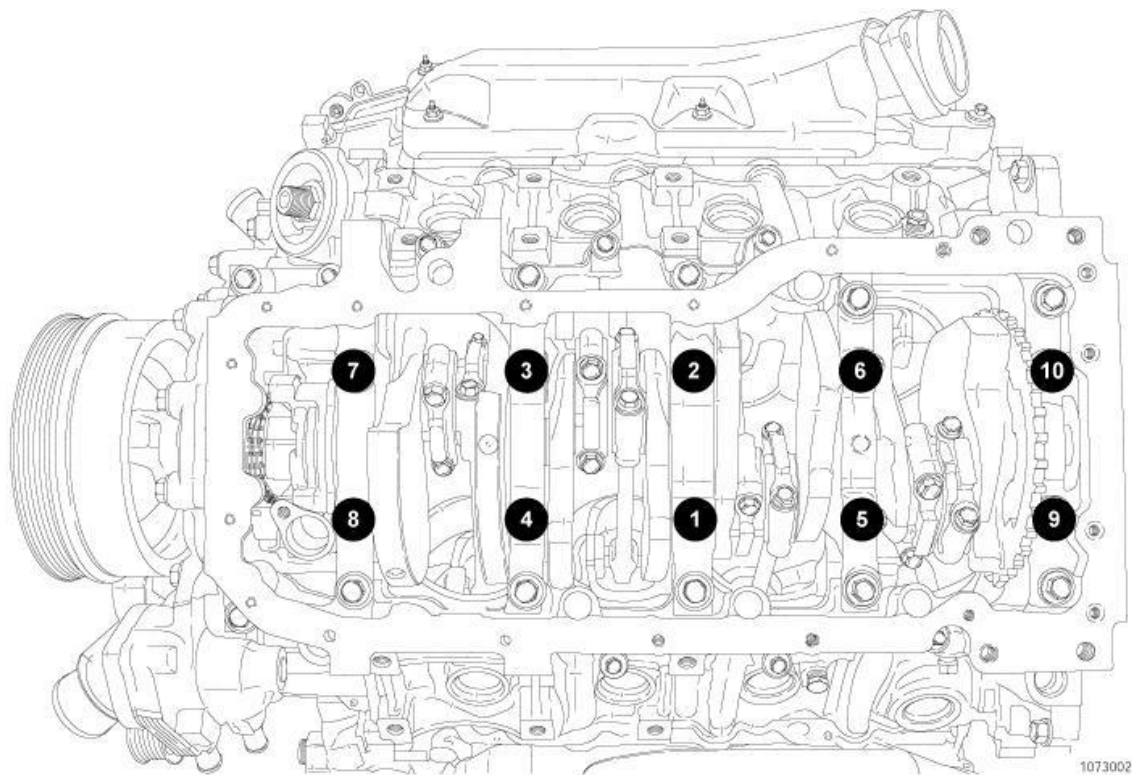

Fig. 183: Tightening Bedplate Bolts (3 Of 4)
9. Rotate bolts 90° in the sequence shown in **Fig. 183**.